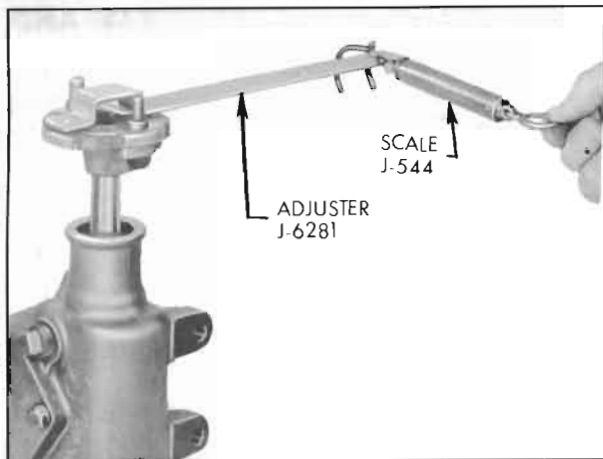

Figure 8-4—Checking Adjustments on Bench
1. Place manual steering gear in vise. Then install Adjuster Adapter J-6281 on flexible coupling. See Figure 8-4.